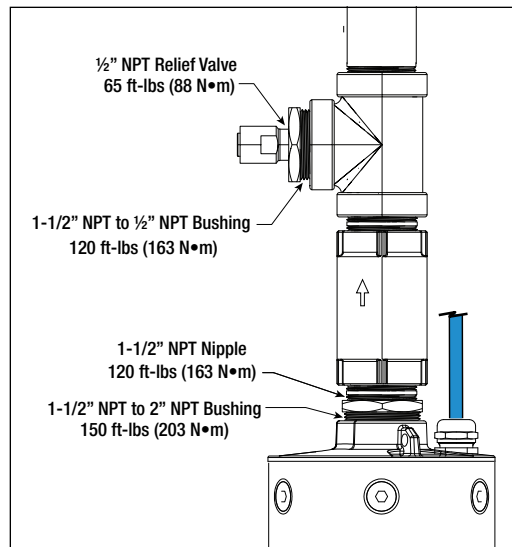

Figure 19. Attaching PMA to Column Piping
For new PMA installation and column pipe adjustment, read 'Installing the Pump' section above and refer to the plumbing fittings in Figure 19 below.
1. Remove 1/2" NPT fixed pressure relief valve. If previous system utilized a Veeder-Root 2HP UMP and large 1-1/4" NPT fixed relief valve, then the associated reducer bushing in tee will also need to be removed (refer to Figure 19).